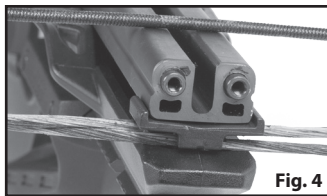

Fig. 4
2. Slide the cable slide into the opening at the end of the barrel while sliding the string down the top of the rail. (Fig. 4)